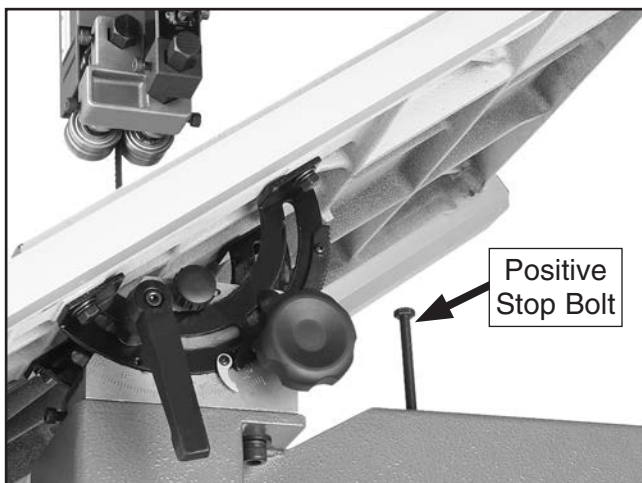

Figure 21. Positive stop bolt installed.
2. Thread M8-1.25 hex nut halfway onto M8-1.25 x 90 positive stop bolt (see **Figure 21**).
3. Thread positive stop bolt into threaded hole on bandsaw body (see **Figure 21**).